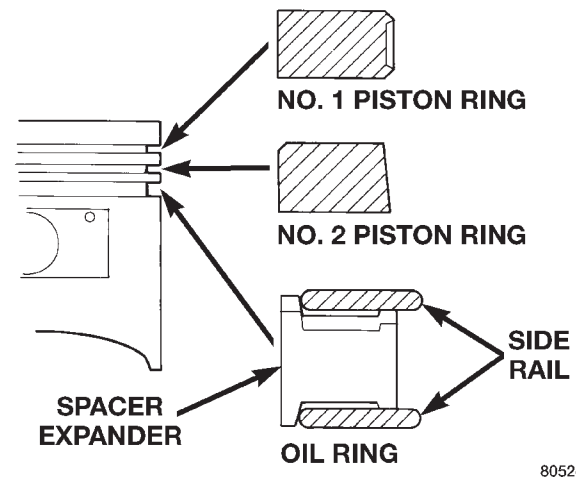

Fig. 6 Piston Ring Installation
(1) Install rings with manufacturers I.D. mark facing up, to the top of the piston (Fig. 6).